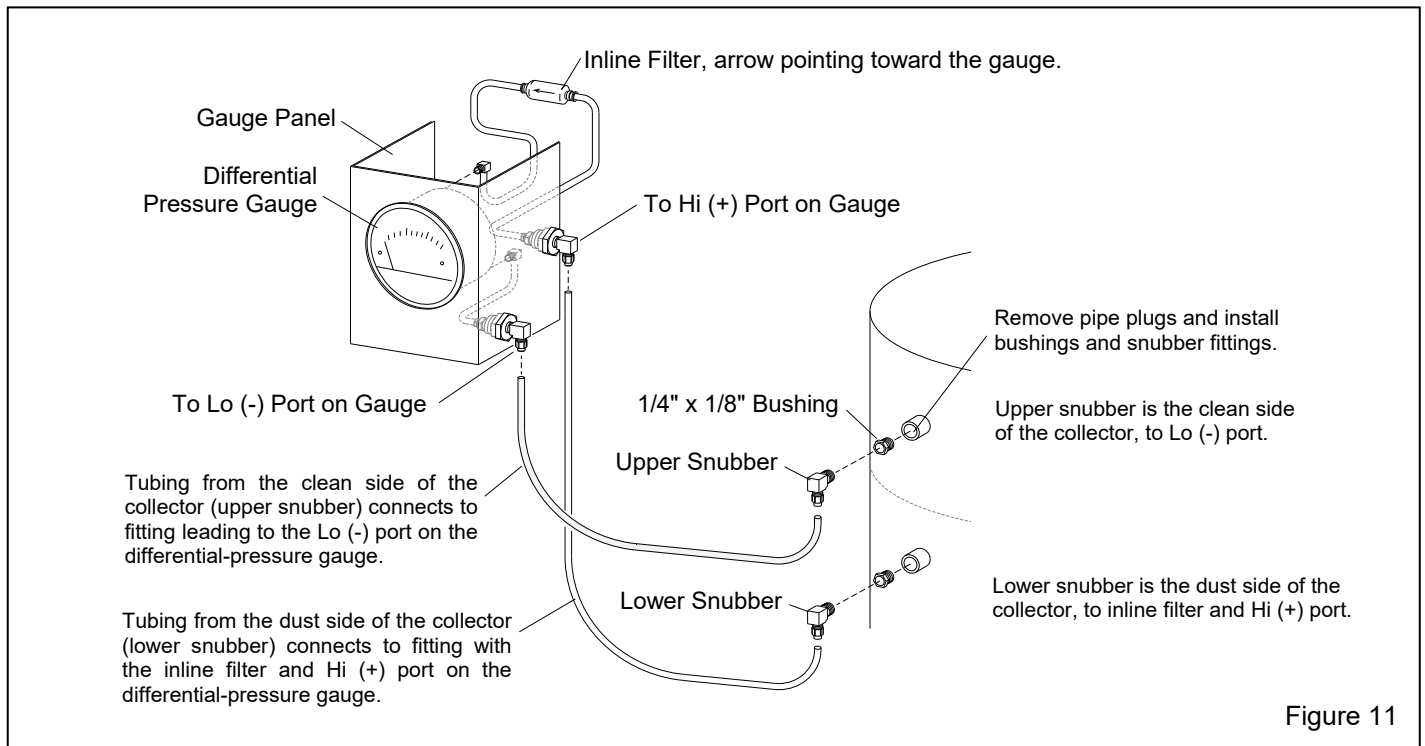

Figure 11
3.6.2 The gauge panel, gauge, filter, and panel fittings come fully assembled; the bushings, snubber fittings, and tubing are loose. Mount the panel on the cabinet or power module at a location where it can be easily monitored. There is not enough room on a MediPulse 2342se to mount it at the front of the cabinet, choose another convenient location. A 20-foot length of tubing is included with the kit, allowing the panel to be mounted within 10 feet of the dust collector connections, as shown in Figure 11.
3.6.4 Remove 1/4" pipe plugs from the dust collector body and install 1/4" x 1/8" bushings and snubber fittings, as shown in Figure 11.